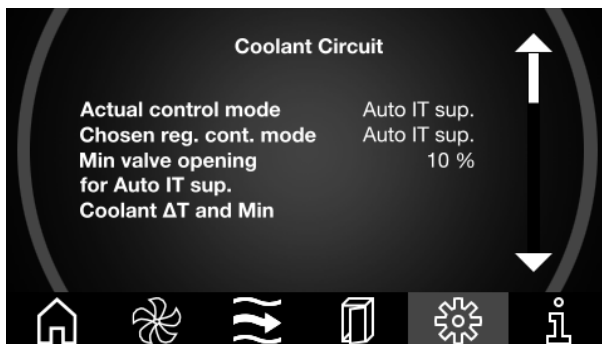

Fig. 82: "Coolant Circuit" screen pages
- Scroll with the arrow keys from the "Coolant Circuit" screen page (fig. 82) to the third screen page. The settings for the current control mode "Coolant ΔT " are displayed here as well as the target temperature of the cooling medium return, and the minimum and maximum server inlet temperatures.